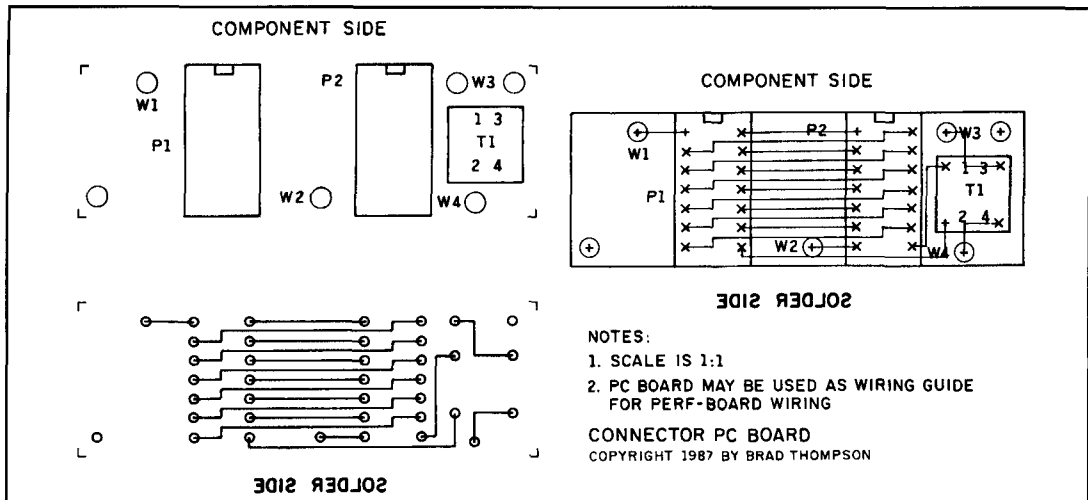

**Figure 1.** Schematic diagram for a broadcast-band loop antenna made from a wooden embroidery hoop.
**Figure 1** shows a schematic diagram for a broadcast-band loop antenna fabricated from an 18-inch wooden embroidery hoop. As **Figure 2** shows, a 60-inch (1.52 meter) length of 14-conductor ribbon cable fits neatly around the hoop's circumference and leaves enough slack to allow plugging the cables' connectors into an interconnection board. **Figure 3** illustrates one possible pc board layout.
Enclosed is a copy of page 10 of *The New York Telegram* for February 11, 1928 (see **Figure 1**). It describes a Hartley oscillator transmitter for 80 and 40 meters. The unusual feature of this one-tube transmitter is that it uses its "tank" coil as an antenna by winding it in a planar loop. Although acknowledged to be less than most efficient, the planar loop provided many a contact while avoiding most of the matching problems that accompany conventional loop antennas of modern design.